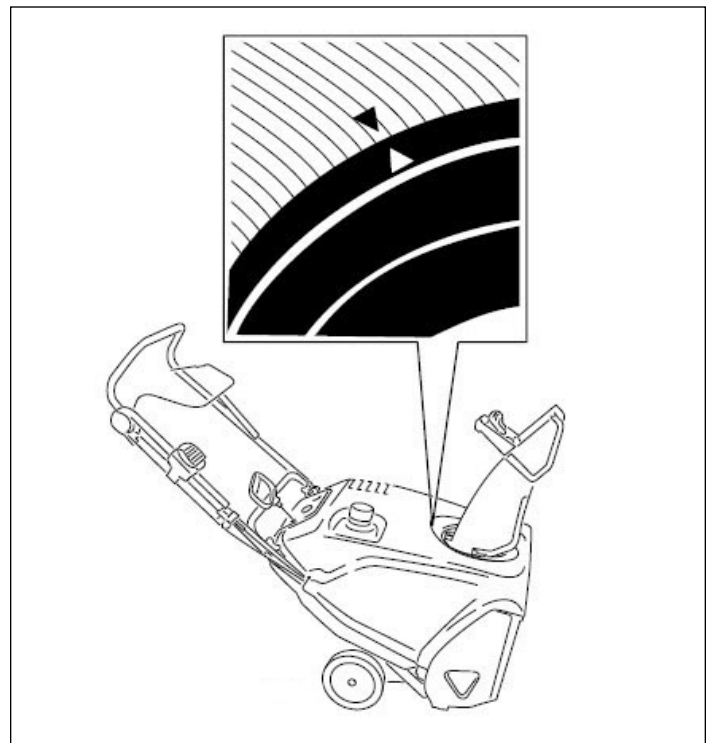

Fig. 026
3. Rotate the discharge chute so that it faces straight ahead and the arrow on the back of the discharge chute aligns with the arrow on the shroud (Fig. 026).